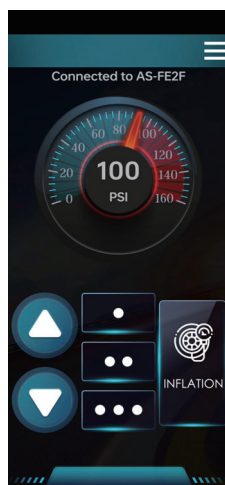

Fig. III.2.1
- 1) Press the up or down arrows to inflate or deflate in increments of 1 PSI (0.1 Bar). Refer to Fig. III.2.1
- 2) Press and hold the up or down arrows to inflate or deflate in increments of 10 PSI (1 Bar). Refer to Fig. III.2.1